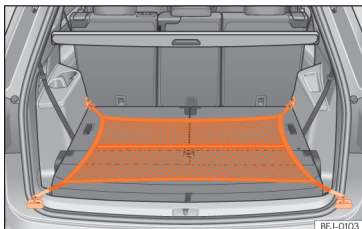

Fig. 163 In the boot: net bag hooked up at floor level.
- Secure the bag hooks to the front fastening rings »» **Fig. 163** »» ⚠. The bag zip should be facing upwards.
- Secure the hooks on the other end of the net bag to the fastening rings below the load-threshold »» **Fig. 163**.